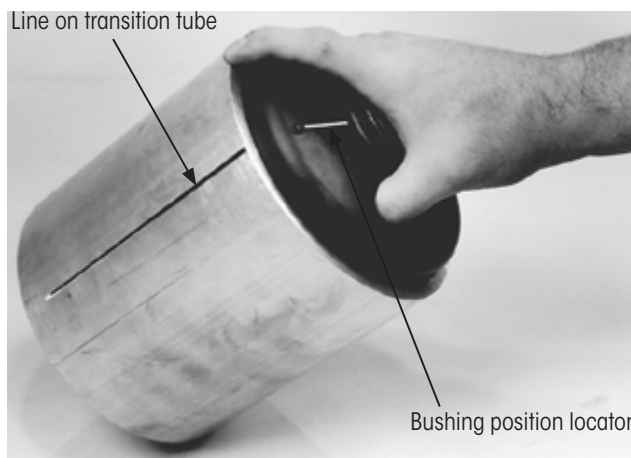
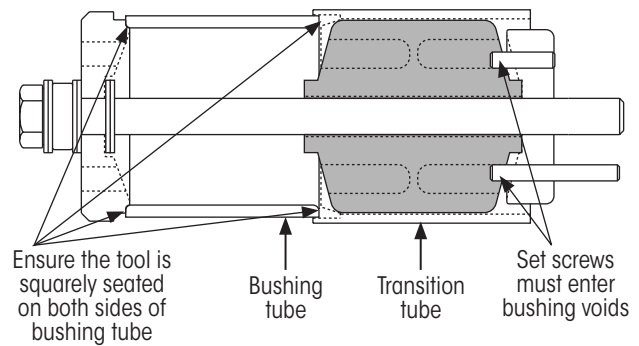
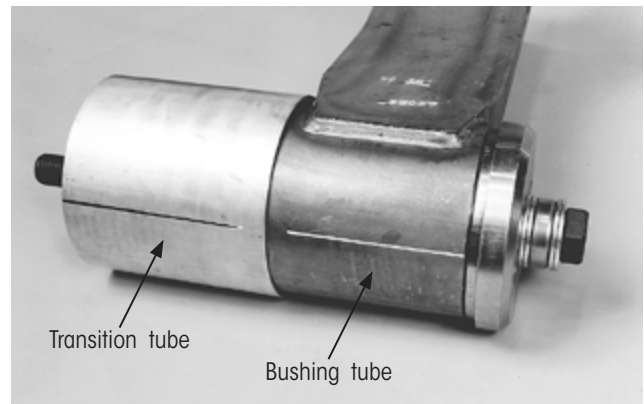

Figure 29: Inserting replacement bushing into transition tube
Figure 35: Ensure tool is square on both sides of bushing tube
Figure 36: Align lines for proper bushing orientation
3. **Insert** the bushing into the transition tube (Figure 29).
4. **Align** the position locator on the bushing with the line drawn on the transition tube as shown in Figure 29.
3. **Slide** the transition tube and bushing assembly onto the hex head bolt (Figure 32) and position it to be squarely seated against the bushing tube as shown in Figure 35.
4. **Align** the line drawn on the transition tube (step 1 on page 15) with the line drawn on the bushing tube (step 2 on page 9) as shown in Figure 36.
5. **Ensure** the bushing position locator (Figure 29 on page 15) is aligned with the line on the transition tube and bushing tube (Figure 36).
7. **Thread** the rear drive plate (concave side first) onto the hex head bolt (Figure 35).
- B. The transition tube is squarely seated on and aligned with the other side of the bushing tube (Figure 35 and Figure 36).
- D. Rear drive plate alignment groove (Figure 39) is aligned with lines on the transition tube and bushing tube (Figure 36).